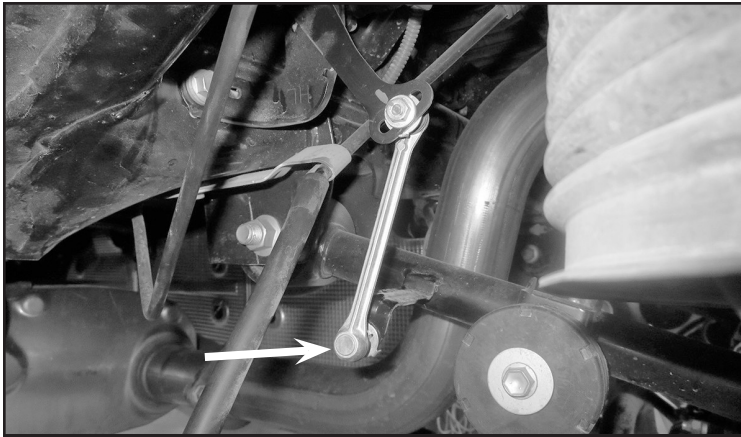

FIGURE 22 - STEP 27
27. Locate the air spring height adjustment rod on the upper link. Disconnect the rod at the lower mount from the link tube. **SEE FIGURE 22**